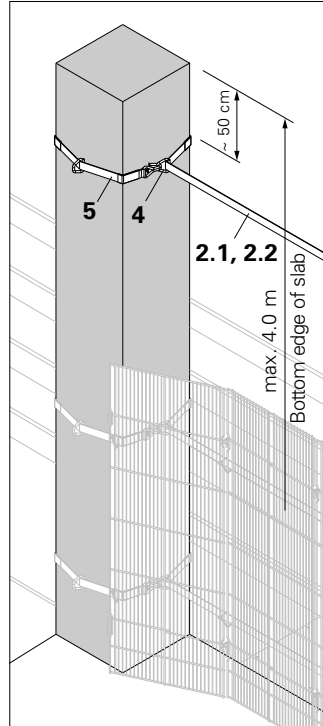

Fig. A3.01
1. Mount third tension belt position PTB (2.1 + 2.2). (Fig. A3.01)